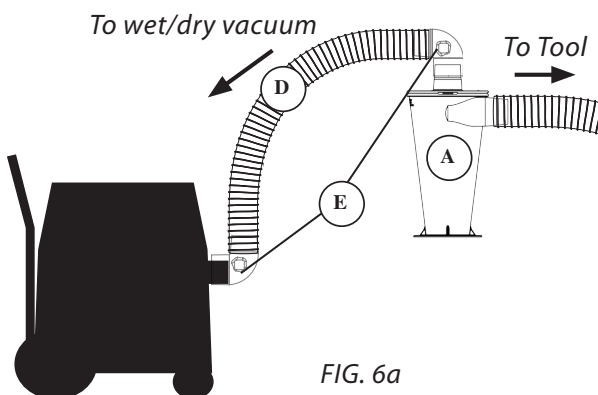

FIG. 6a
Connect the Cyclone's (A) inlet (sideways facing port) to your dust producing tool with your vacuum's hose or ductwork [FIG. 6a].